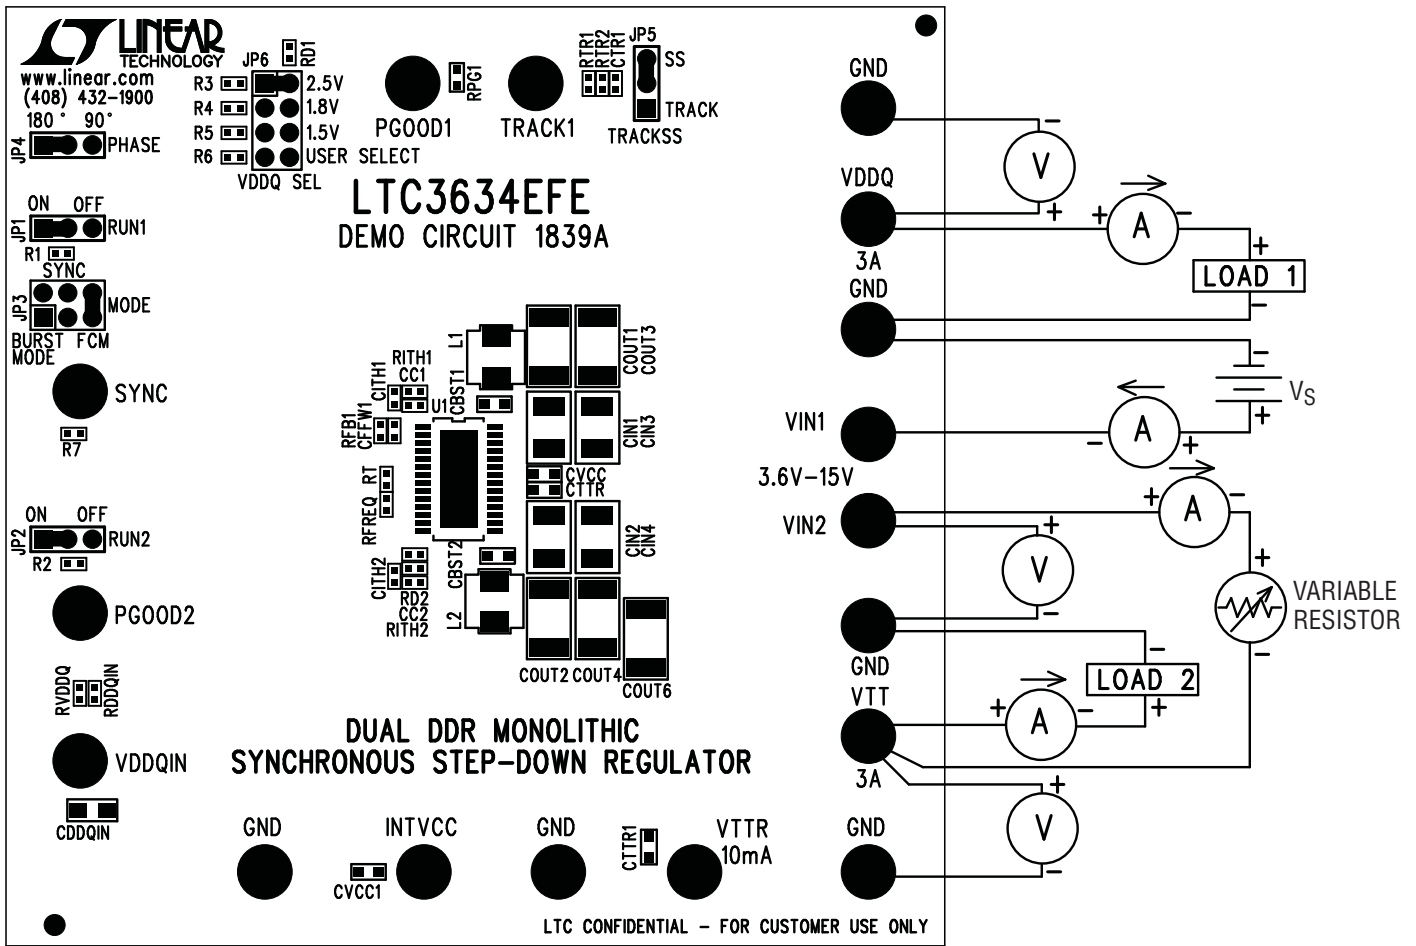

Figure 1. Proper Measurement Equipment Setup
The DC1839A is easy to set up to evaluate the performance of the LTC3634. For a proper measurement equipment configuration, set up the circuit according to the diagram in Figure 1.
1. Connect the input power supply to the  $V_{IN}$  and GND terminals. Connect the loads between the  $V_{OUT}$  and GND terminals. Refer to Figure 1 for the proper measurement equipment setup.